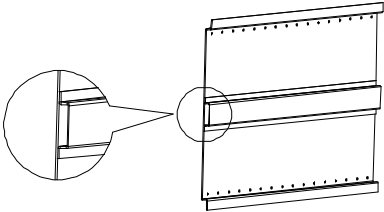

Figure 4-4 Welding a transverse reinforcement beam on the back of the backplane
- ✧ The backplate can be reinforced if necessary. It is recommended to weld a transverse reinforcement beam on the back of the backplate (as shown in Figure 4-4). This can significantly improve the load-bearing capacity of the backplate and enhance the overall structural stability.